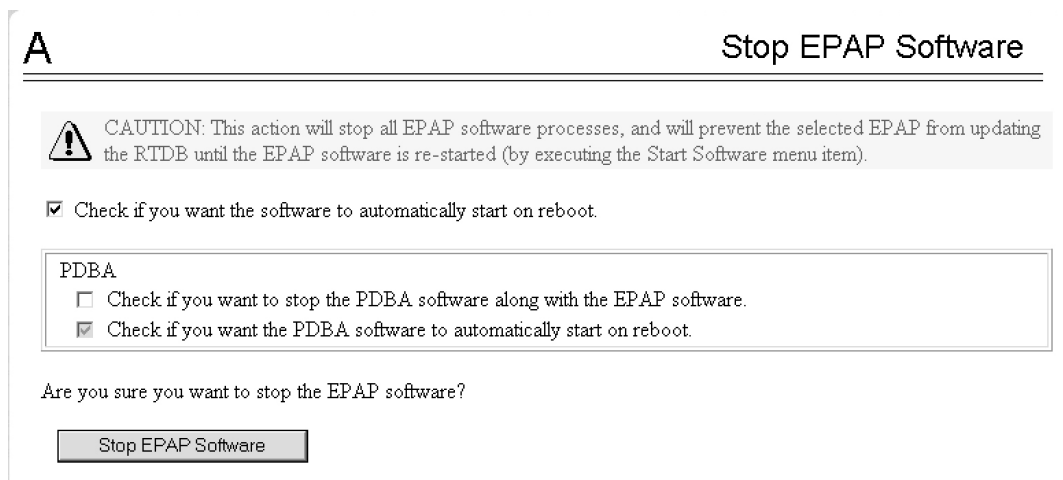

Figure 21: Stop EPAP Software
4. Select **Process Control>Stop Software** to ensure that no other updates are occurring. The screen in Figure 21: Stop EPAP Software displays: